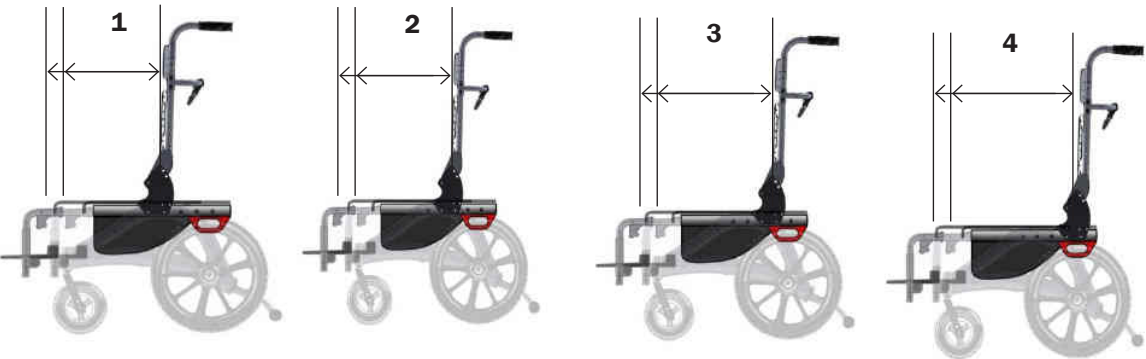

Fig. 26
4. Follow the Cane Position seat depth adjustment chart for the seat depth position range. Fig. 26
Note: Weight capacity depends upon position of back canes as indicated in Fig. 26 & 30. Please refer to the Serial Number Label in Fig. 31.